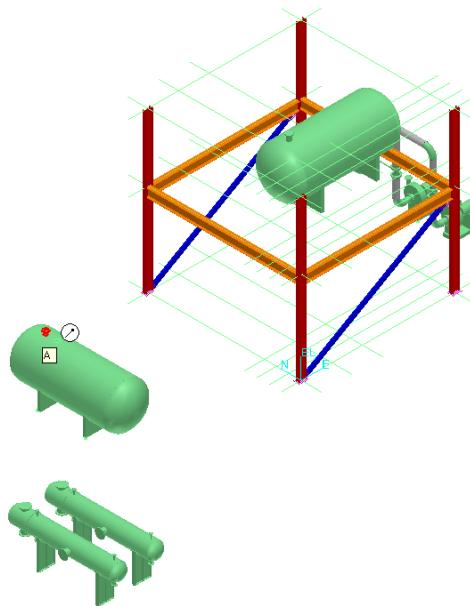

Figure 12: Selecting the Starting Point
2. Select the nozzle **40V-101/A** as the starting point, as shown in Figure 12. The starting location can be an existing pipe run, a nozzle, a point in space or a piping component.